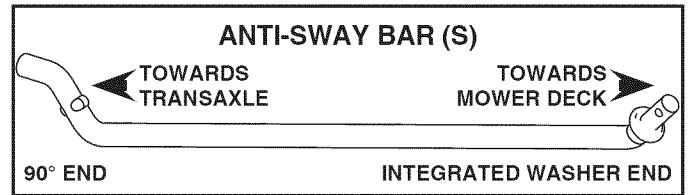

Fig. 33
## 5. INSTALL ANTI-SWAY BAR (S) (IF EQUIPPED) (See Fig. 33 - 35)